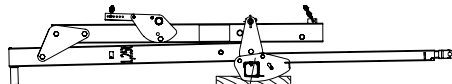
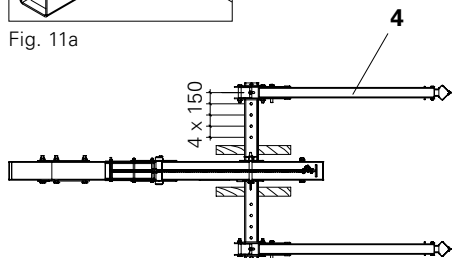

Fig. 11
Fig. 12
2. Place timbers underneath and pull back locking pawl (6). (Fig. 11 + 11a)
3. Lift fork arm (4).
4. Adjust spacing in increments of 150 mm. Set up spacing symmetrically to the gallows section and as wide as permitted by the slab table between the props. (Fig. 12)